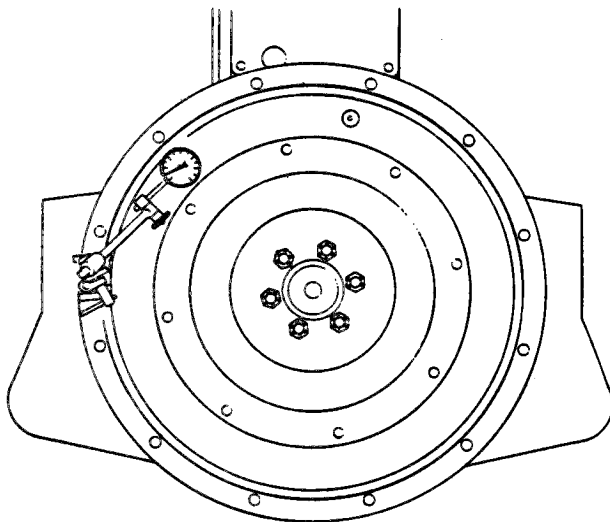

Figure 3-22. Indicating Flywheel Face
d. Attach indicator as shown in figure 3-22, to check face of flywheel. Runout should not exceed 0.008 inch total indicator reading. If runout is excessive, remove flywheel and check for dirt or foreign matter between flywheel and mounting seat on crankshaft. Reinstall and recheck.